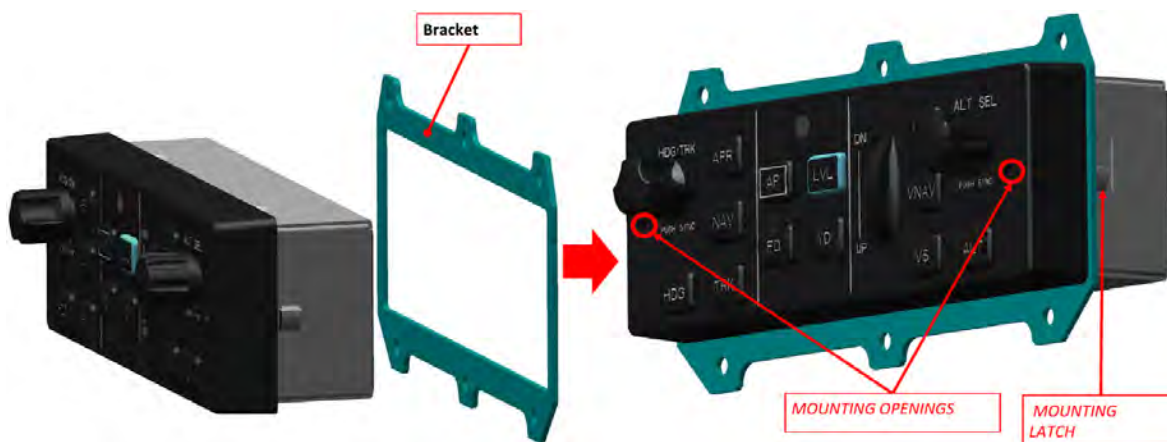

FIGURE 4-7
3. Remove the controller from the bracket. (See Figure 4-7.)